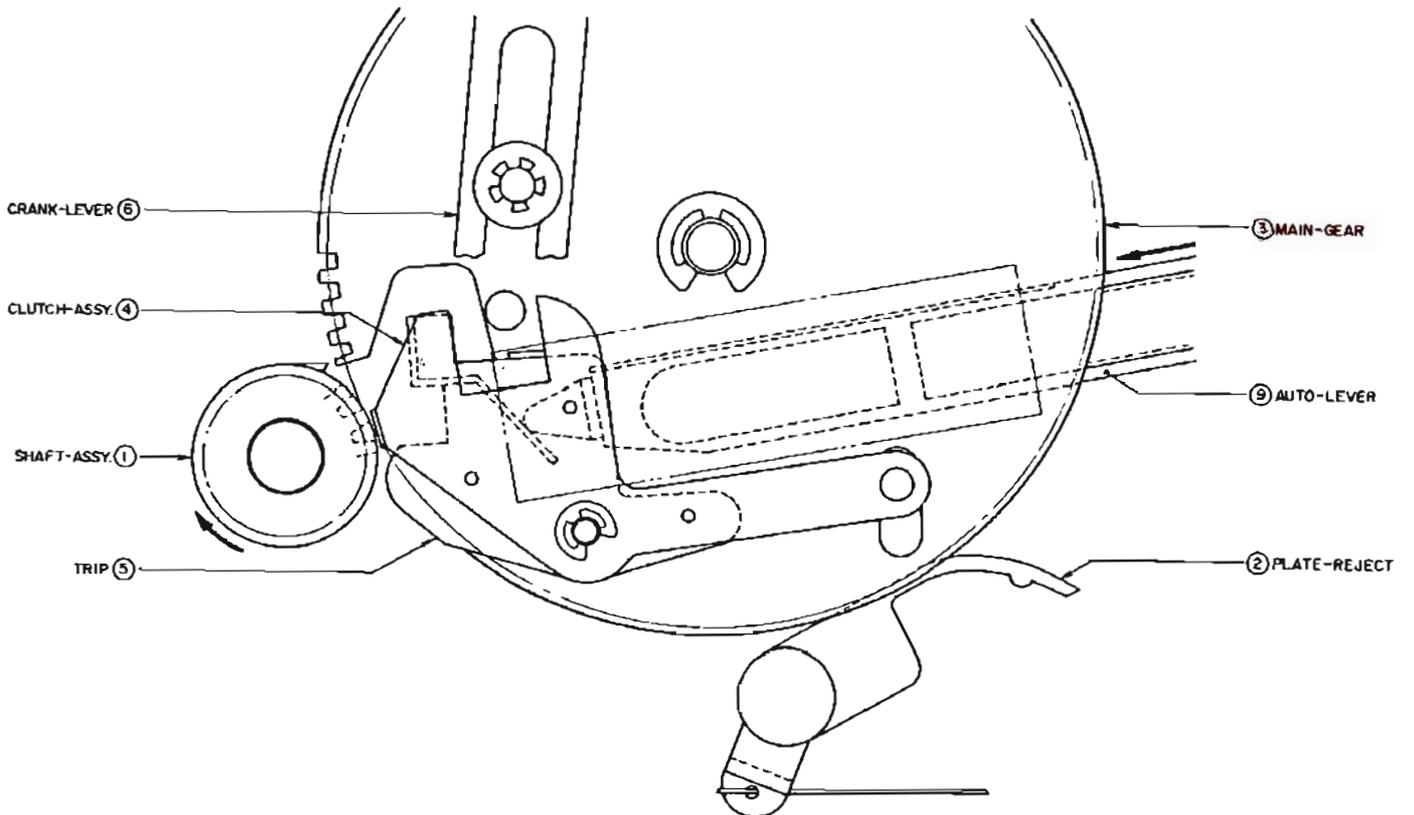

Fig. 5 PICK UP ARM STYLUS TIP IN VICINITY OF 126φ
In due time the pick up stylus finishes sound groove tracing and about the time it enters the lead-out groove, the tip of AUTO-LEVER (9) begins to push the skirt part of TRIP (5) and the CLUTCH ASSY (4) which rides lightly on this part is pushed out toward the TABLE SHAFT ASSY (1) (shown in Fig. 5, when the pick up stylus is at a about 126 mm position from the turntable).
When listening to a record and you wish to stop in the middle of a performance, or when playing a record not according to specifications, and the stylus tip has advanced to the last groove, simply bring the cut lever forward. This moves PLATE REJECT 2 which pushes PLATE JOINT (13), then POLE REJECT (15) and ultimately CLUTCH ASSY (4) is pushed as shown in Fig. 13. ( $\leftarrow$  mark). Then return operation commences and the power source is turned OFF (Refer to Item 1 above and Fig. 5).